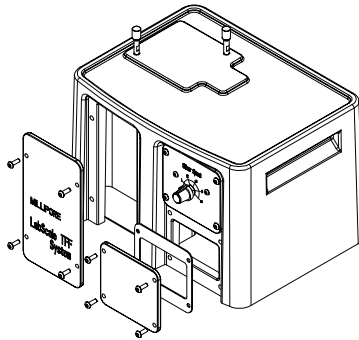

Figure 18: Remove blank panels from system base.
1. Remove the blank panels from the system base as shown in figure 18.